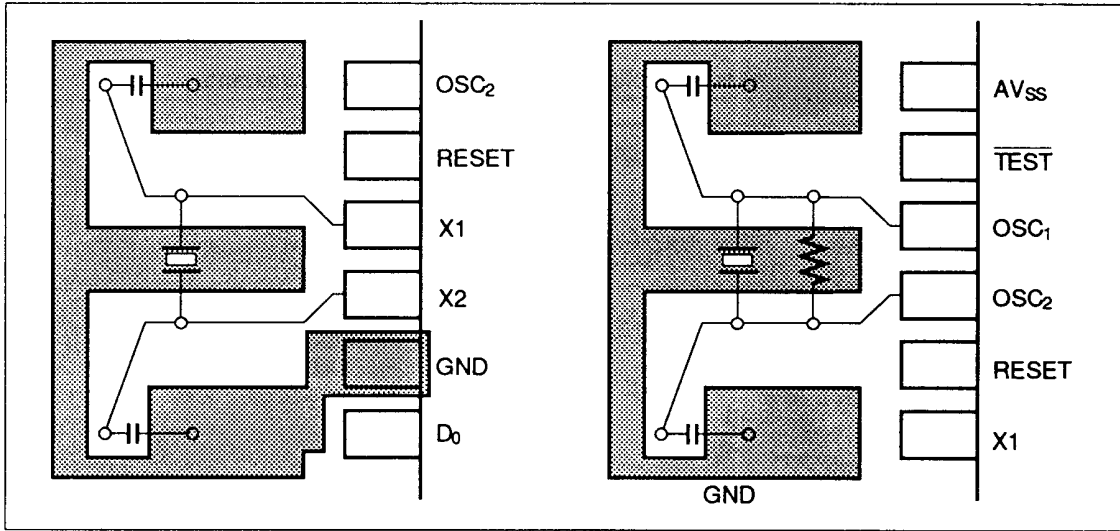

Figure 20 Typical Layouts of Crystal and Ceramic Filters
2. The wiring between the OSC₁ and OSC₂ pins (X1 and X2 pins) and the other elements should be as short as possible, and must not cross other wiring. Refer to figure 20.